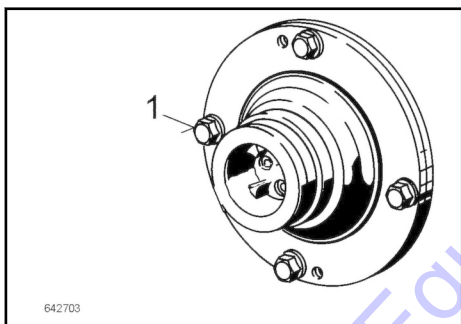

Fig. 240
8. Slide the bearing flange over the exciter shaft and fasten it with hexagon screws 1 ↪ Fig. 240 and washers.